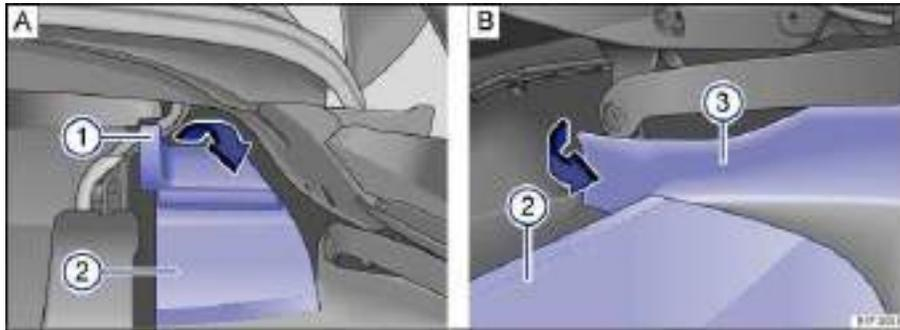
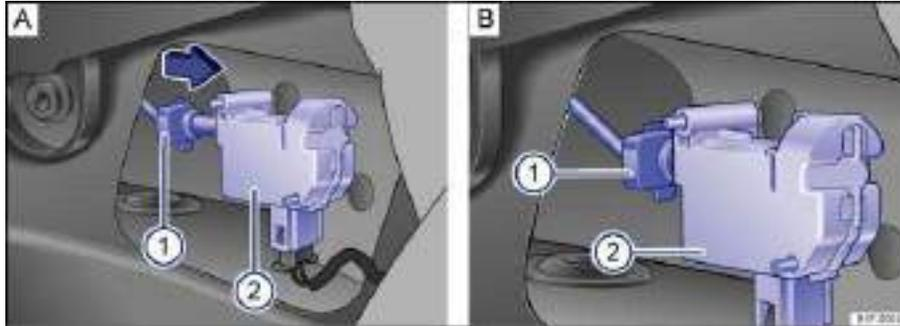

Fig. 169 Right side of luggage compartment: Remove cover.
Fig. 170 Right side of luggage compartment: Emergency release of fuel filler flap.
- Upper edge of the luggage compartment trim on the right-hand side: pull plastic strip ⇒ fig. 169 A (1) in the direction of the arrow. The plastic strip will come out of the bracket.
- Fold down the luggage compartment trim panel A (2).
- Fold down the luggage compartment side trim panel A (3). This may require some force.
- Pull release pin ⇒ fig. 170 A (1) in the direction of the arrow towards the housing (2). The fuel filler flap is released when release flange B (1) is pushed/pulled in the direction of the servo housing (2).